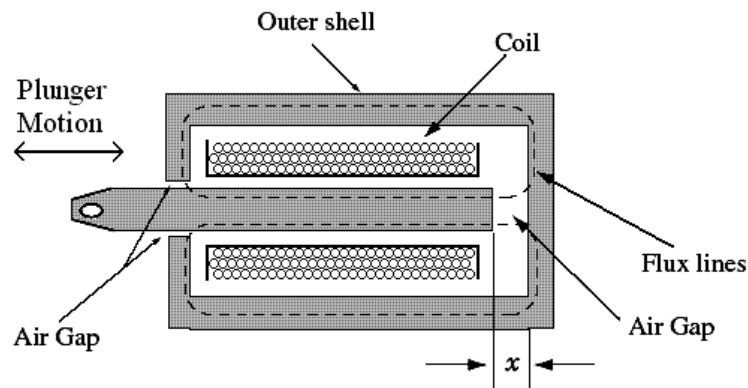

Figure 1: Cross-section of a solenoid. Dashed lines show magnetic flux.
Read the corresponding chapter in the textbook as well as review the class notes and this Manual. For the solenoid depicted in Figure 1, derive the equations (1) and (2). Show your Pre-Lab to your TA and let him sign/date it. You will have to include the signed pre-lab page with your lab report.
A solenoid is a simple linear actuator that uses a principle of position-dependent reluctance to convert electrical energy into a mechanical energy of the plunger movement which is then used to apply force. The cross-sectional view of a typical solenoid is shown in Figure 1.